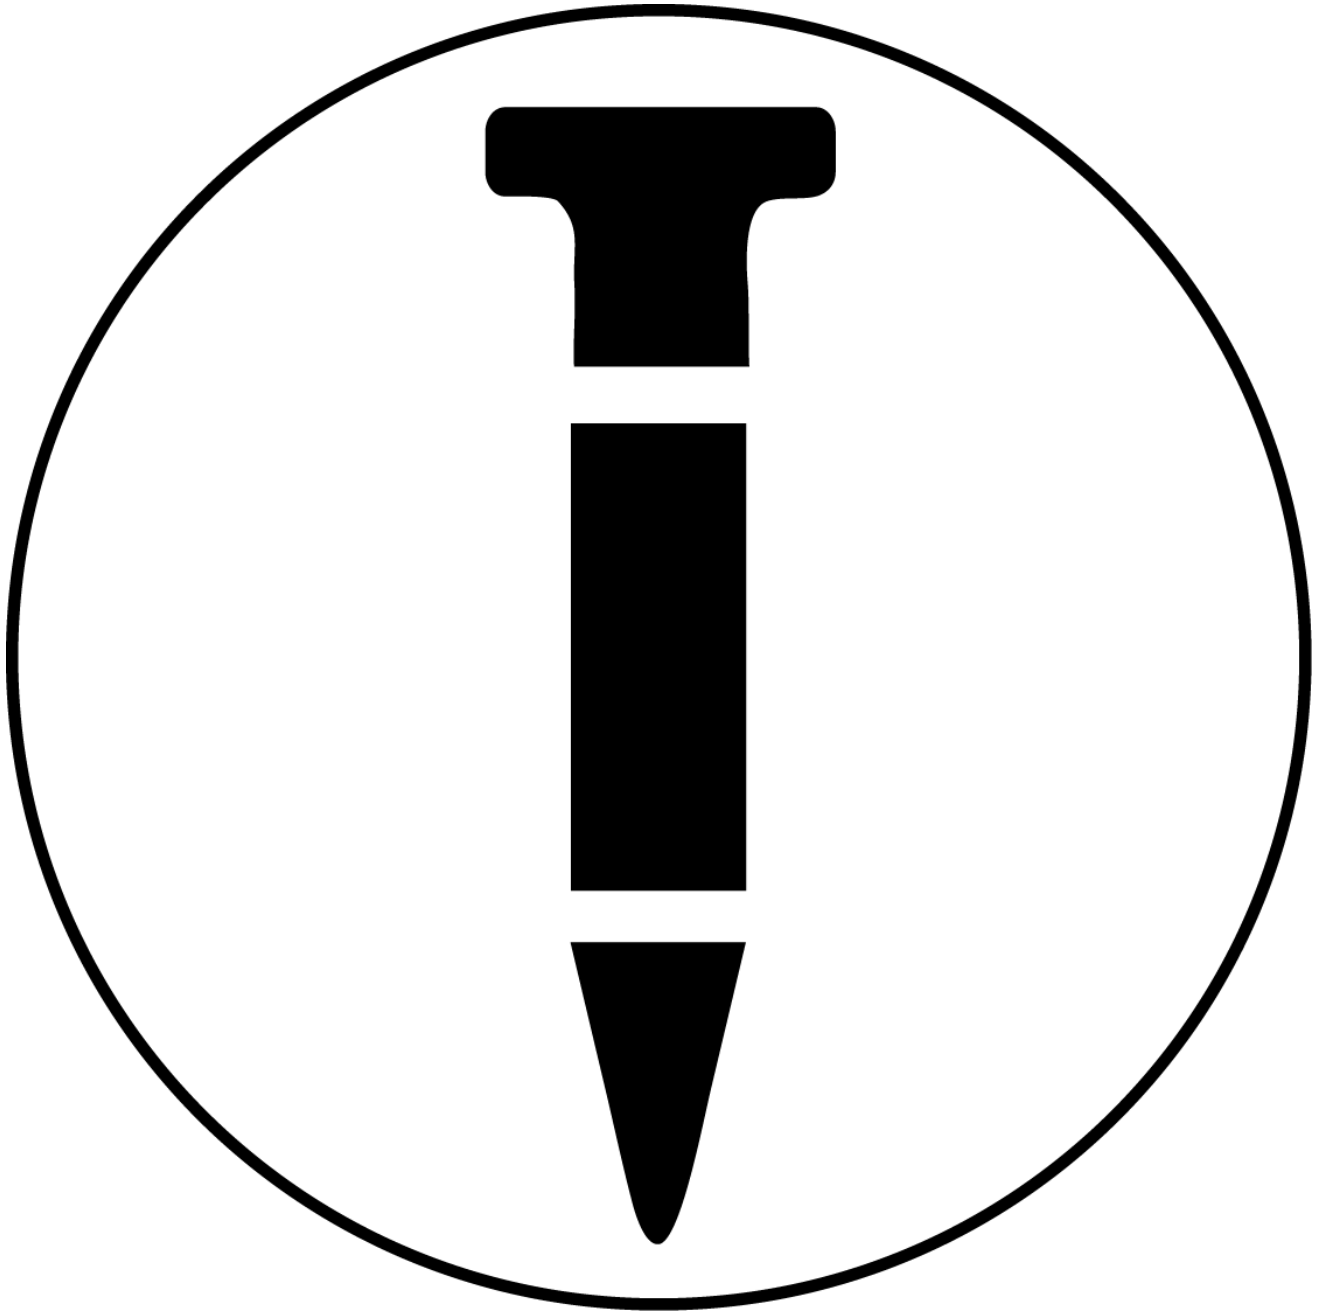

FIGURE 1—THREE MANUFACTURER'S SYMBOLS (LOGOS) FOR FASTENER HEADS
- 7.1** Cartons of the pneumatic fasteners must be labeled with the Aerosmith Fastening Systems company name, part number (2324A, 2325A or 2385A), lot number, evaluation report number (ESR-1641) and the VersaPIN™ designation. The head of each fastener must feature a logo symbol as shown in Figure 1.